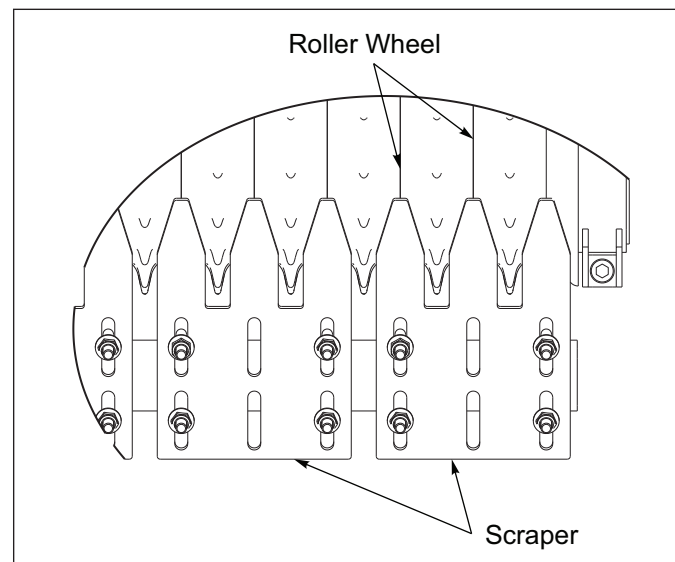

Figure 5-13: Scraper Alignment
3. Verify that the Scrapers are centered as best as possible between the Roller Wheels and adjust if necessary. **See Figure 5-13.**